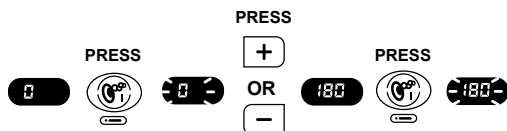

Figure 3
- B. Press the **Warmer** (  ) button to scroll through the Primary Filtration cycles. After the last cycle, “PF8,” the LED screen will display the number of days remaining or zero, Figure 3.